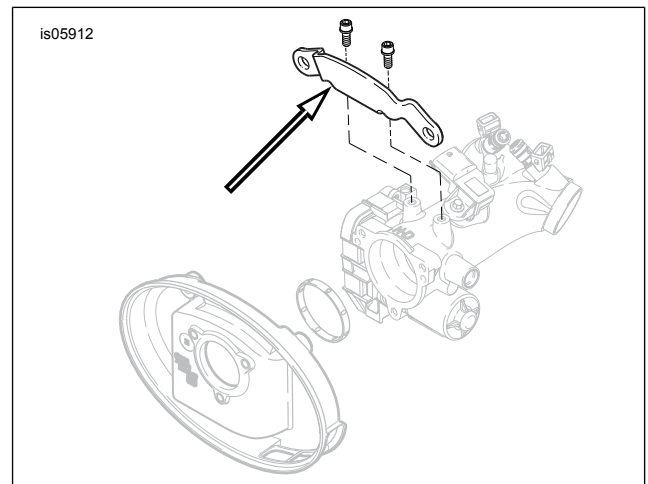

Figure 1. Remove Induction Module Support Bracket
2. Remove the existing air cleaner backplate. Refer to the service manual. Save the original equipment (OE) button head screw that secures the air cleaner cover. Discard the remaining parts.
4. See Figure 1. Remove and discard the induction module support bracket.